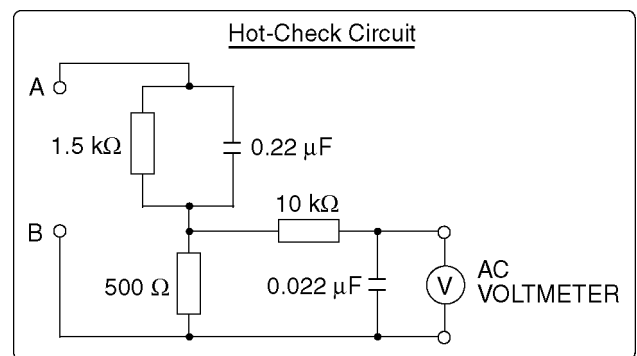

Figure 1
### 1.1.2. Leakage current hot check (See Figure 1)
2. Connect **A** to exposed metallic part on the set. And connect **B** to a good earth ground, as shown in Figure 1.